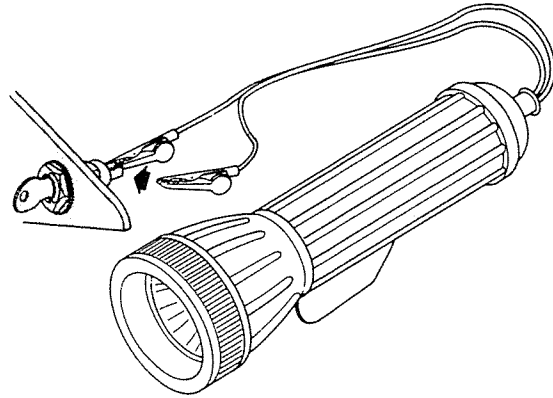

Figure 9. Testing Ignition Switch.
2. When switch is in "OFF" position, T 2938-1 tester should light, ohmmeter should indicate zero. Figure 9.